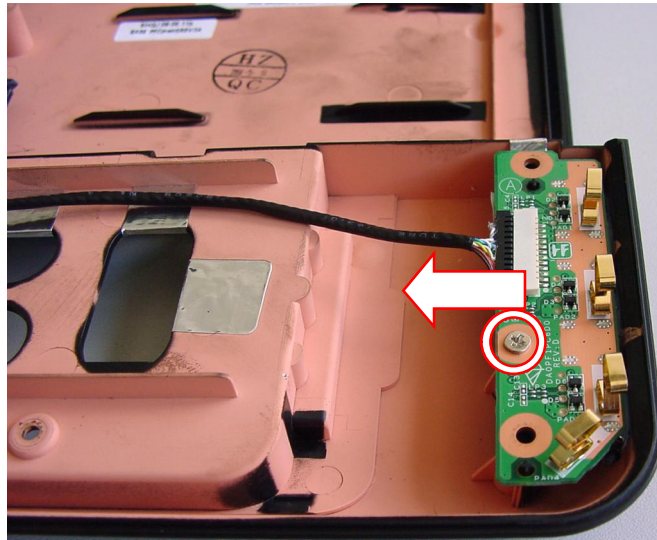

Fig. 31 Location of USB board cable and screw.
2. Remove the screw securing the USB board (see Fig. 31).